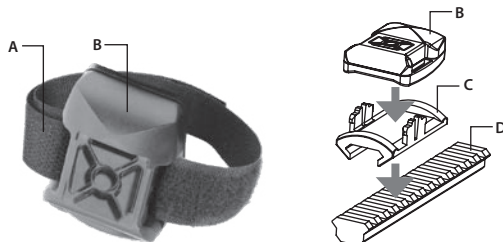

FIGURE 3-7. ADVANCED WIRELESS REMOTE CONTROL
Using Velcro tape (A, Figure 3-7), fasten the remote control (B) to an easily accessible place (e.g., on the front of the rifle stock).